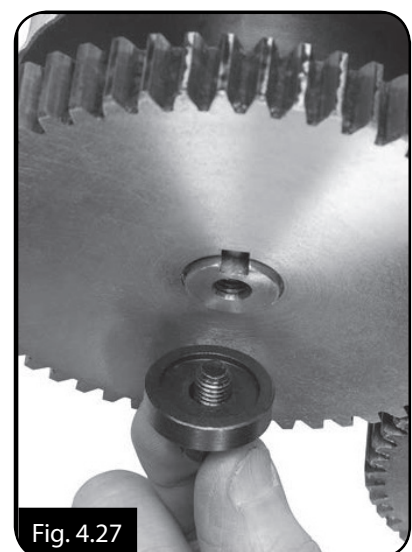

Fig. 4.27
9. Use the 6mm hex wrench and remove the lower and top spindle cap screw, shoulder washer, to change the bottom and top gears. (Fig. 4.27)